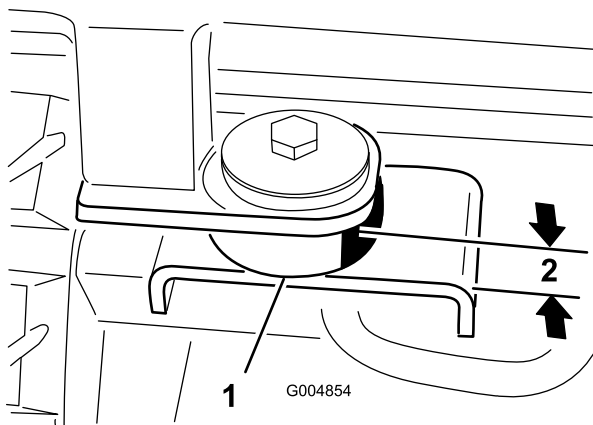

Figure 42
11. At the rear mounting points, secure the cab to the machine with a bolt (1/2 x 3 inches), steel washer (1/2 x 2-1/2 inches), rubber washer (1/2 x 2-1/2 inches) and nut (1/2 inch) (Figure 42). Tighten all four cab mount bolts until the rubber mounts are compressed to a thickness of 7/8 inch (2.2 cm).